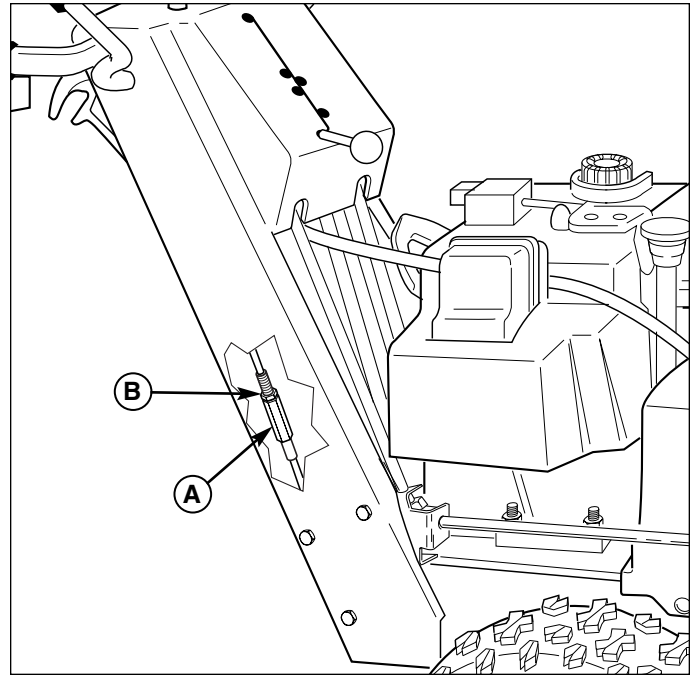

Figure 23. Cable Adjustment
2. Loosen the jam nut (B, Figure 23).
3. Turn the adjustment nut (A) to lengthen or shorten the cable. The cable should be tightened just until all slack is removed from the lever, however it must not engage the Easy Turn™ release without depressing the control lever.